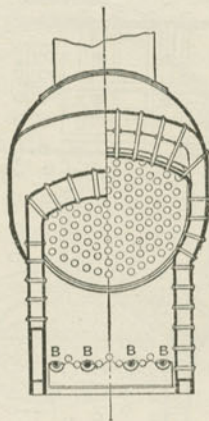

Fig. 29. Millholland Fire-box.
A. It is shown in Figs. 29 and 31. The furnace top slopes downward from the boiler barrel, and the crown-sheet is stayed with screw stays, except for a short dis-